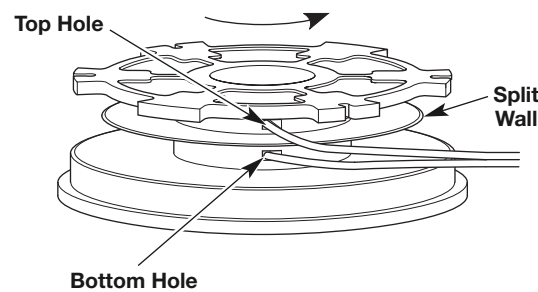

Fig. 16
2. Using one split end, insert one line into the top hole and the other line into the bottom hole in the inner reel (Fig. 16).